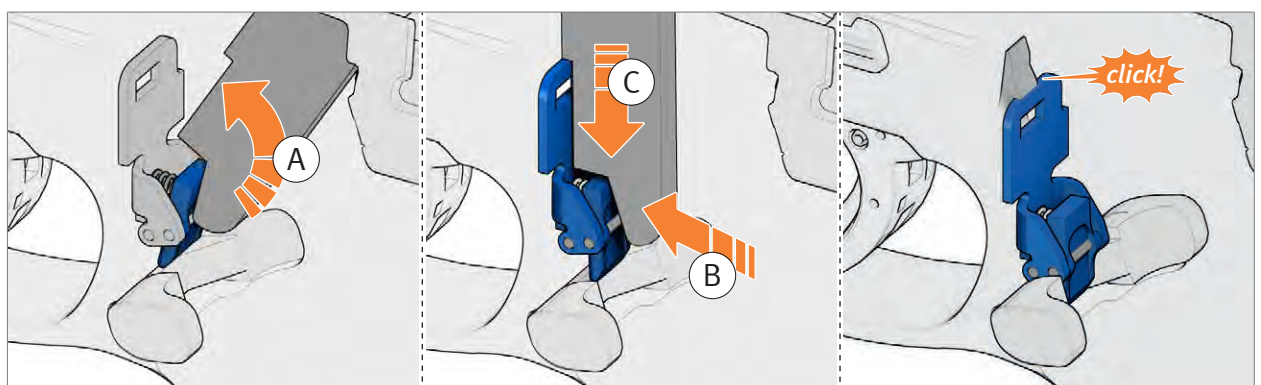

Fig. 26: Latch in the magazine catch
6. Press the detent piece on the magazine catch with the tool and hold it down (Fig. 26).
7. Push the magazine catch downwards until the magazine catch latches (Fig. 26).